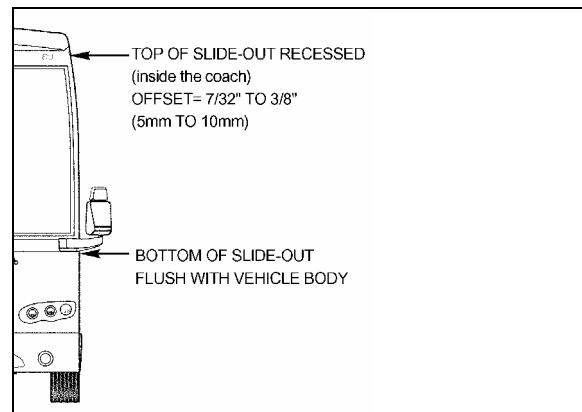

FIGURE 23: TILT ADJUSTMENT
- Using levelling screw 3, adjust the tilt in order to have the top of the slide-out recessed between 5mm and 10mm (7/32” and 3/8”) (see FIGURE 23).